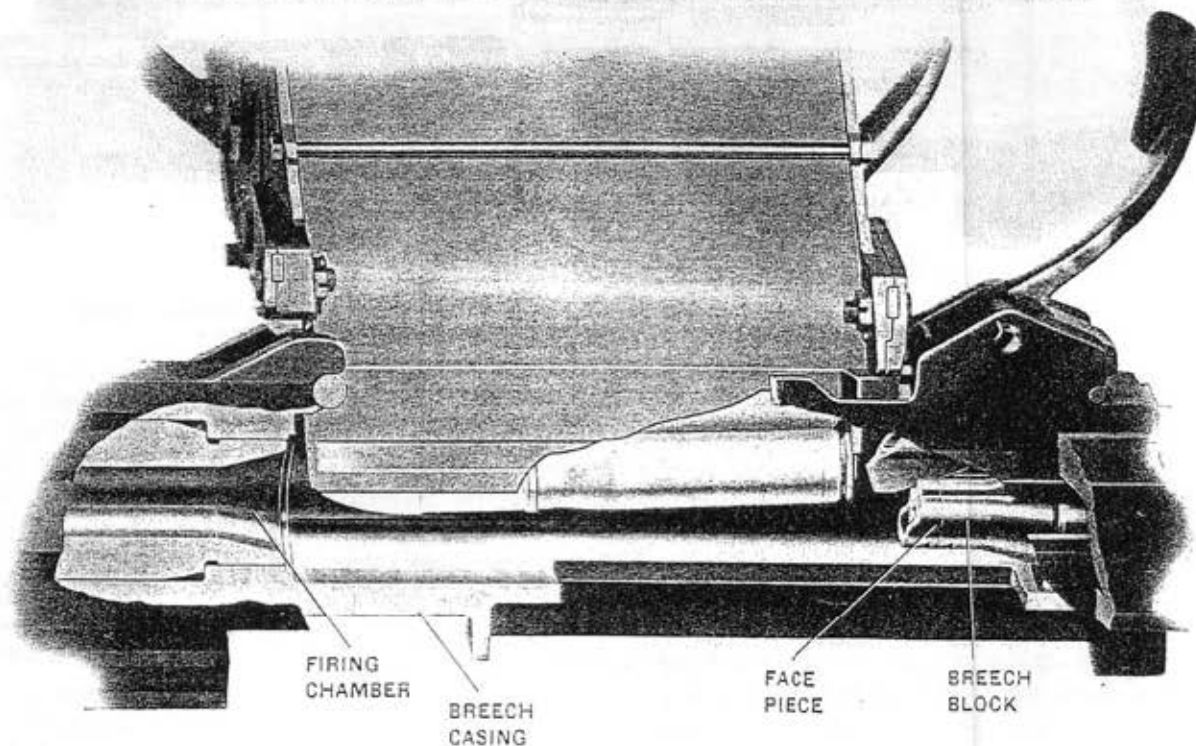

Figure 3—Loading Mechanism in cocked position. Breech block in position to pick up cartridge when trigger is released
(D). Preparatory to opening fire, the breech block must be pulled back, see Figure 3 and gun assembly Plate 1, until the sear (OE-1317) is held by the trigger hook (OE-1216). This compresses the barrel springs (OE-1320 and 1321) and causes a pull on the recoiling parts being held in the cocked position by the trigger hook.
(K). Whenever pressure on the trigger is released, the breech block is caught on the next attempt to commence its counterrecoil and is held in the cocked position. See Figure 3. This happens in all cases when there is ammunition in the magazine. In case the pressure on the trigger is maintained and the magazine becomes empty then the trigger mechanism is returned automatically to the cocked position regardless of the position of the trigger. See Figure 24.